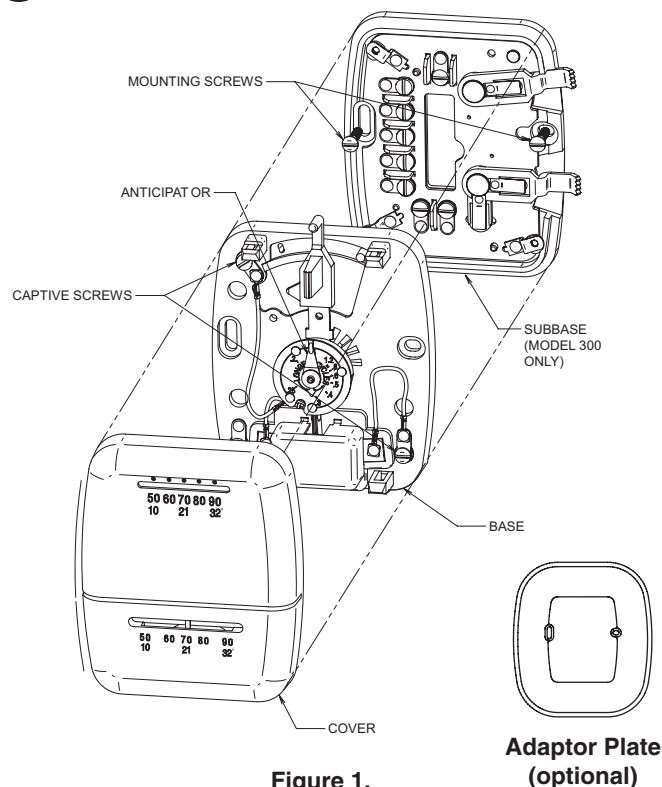

Figure 1.
- B. Mount switching subbase/adaptor plate:** Use the screws provided to mount the subbase and adaptor plate (optional) to wall (see Fig. 1).
- D. Mount Thermostat Base:** Gently push excess wire back into the wall opening and plug hole with a fire-resistant material, such as fiberglass insulation to prevent drafts from affecting thermostat operation. Mount the thermostat base to the sub-base using the three captive screws on the thermostat base. (See Fig. 1) Tighten the screws securely. Remove paper tag from plastic contact cover. Proceed to Step #5.